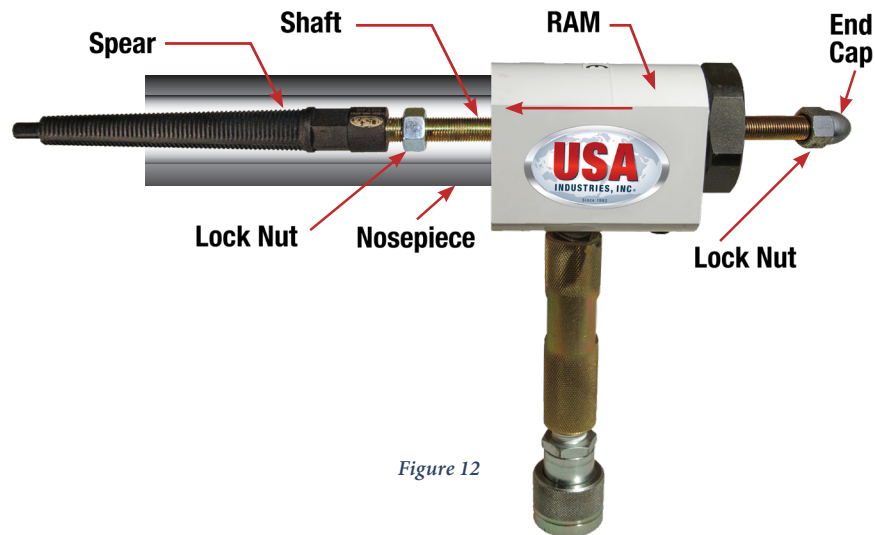

Figure 12
- The *Plug* can also be removed using the *Plug Removal Tool* and *Ram*. The assembly is basically the same except the *Slide Hammer* is replaced by the *Ram* and the *Tool Removal Nosepiece* is used for bracing. An example of the *Plug Removal Tool* with the *Ram* is shown in *Figure 12*.